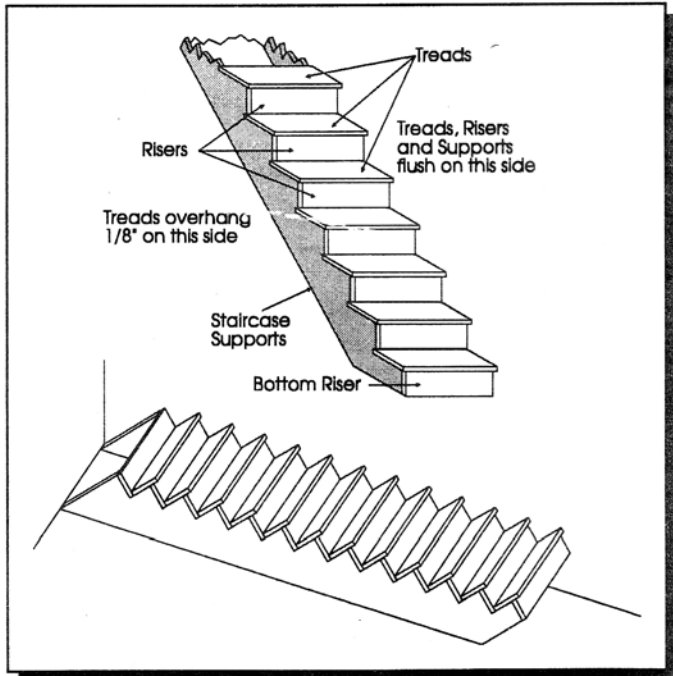

Figure 31
2. Set the two 1st Floor Staircase Supports on the longest flat edge with the bad side of both facing to the right. Glue the Back Plate in place between the supports, making sure that the edges are flush, glue 12 risers into position. Note that the bottom risers are narrower than all other risers. Glue 12 treads into position leaving a 1/8" overhang on left edge. See Figure 31. Assemble in the corner of a drawer to help assure squareness.